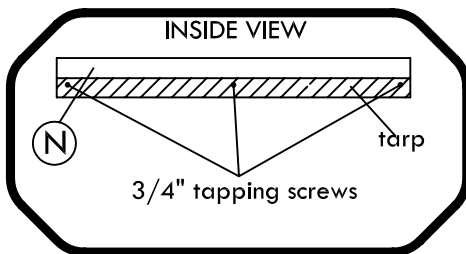

Fig. 14
(1) Green Roof Tarp
Step 1: Drape Tarp over Tarp Support 'P' and Tarp End Caps 'N'. Attach one side of tarp to inside of one Tarp End Cap 'N' with (3) 3/4" tapping screws. Pull other side of Tarp tight and attach to inside of other Tarp End Cap with 3/4" tapping screws. (see Fig 14 & 15)